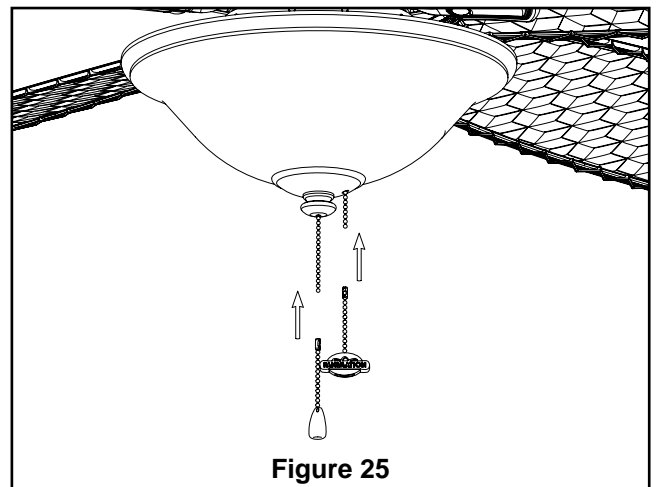

Figure 25
3. Install pull chains and fobs. (Figure 25)